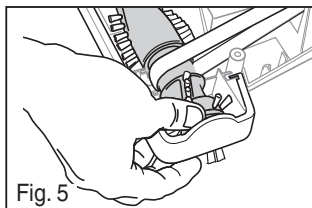

Fig. 5
- Insert left end of brush roll first. Make sure end cap fits into base. Pull right side of brush roll to stretch belt and insert right end cap into base (Fig. 5). Make sure it slides into position.